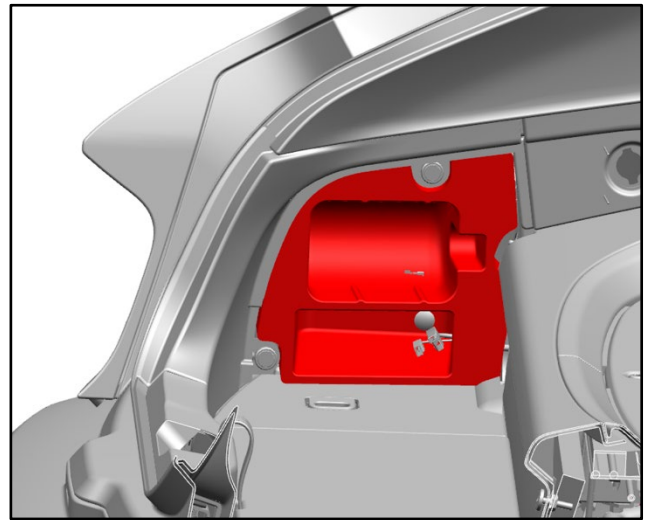

Figure 5
7. Remove the rear stowage box (and its contents) on the left side of the luggage compartment (refer to Figure 5).